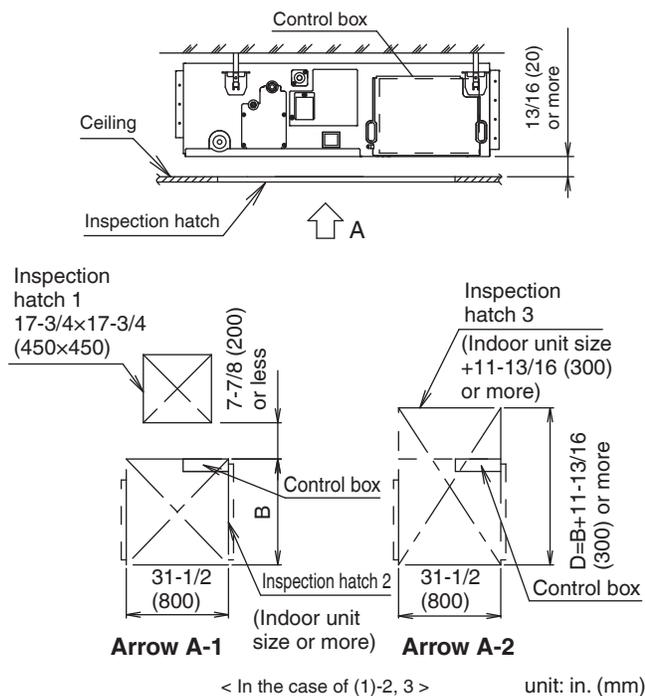

Fig. 4
- Inspection hatch 1 17-3/4×17-3/4 in. (450×450 mm) on the control box side and inspection hatch 2 on the bottom of the unit. (Fig. 4, arrow A-1)
- Inspection hatch 3 on the bottom of the unit and on the bottom side of the control box. (Fig. 4, arrow A-2)